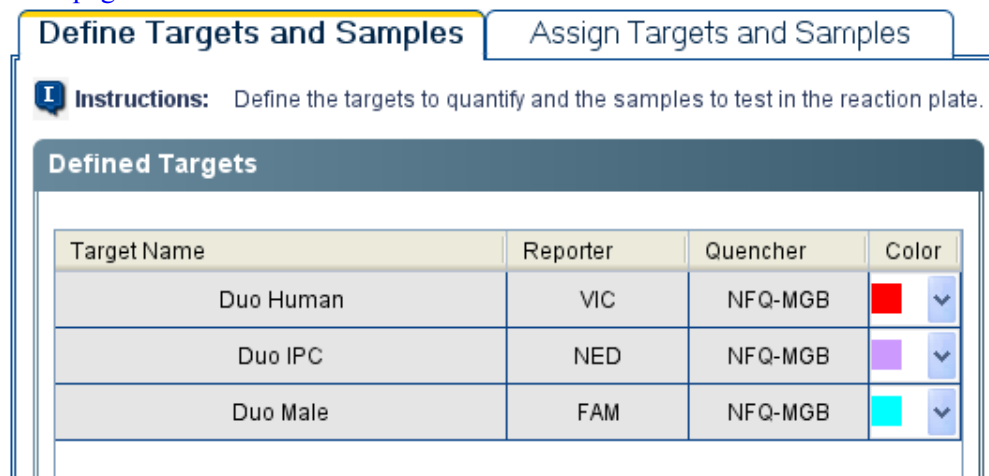

Figure 6 Defined Targets area (example shows Quantifiler® Duo experiment targets.)
2. Select the **Define Targets and Samples** tab to open the Defined Targets area. View the targets list (Figure 6) to verify that you selected the correct experiment in step 2 on page 7.